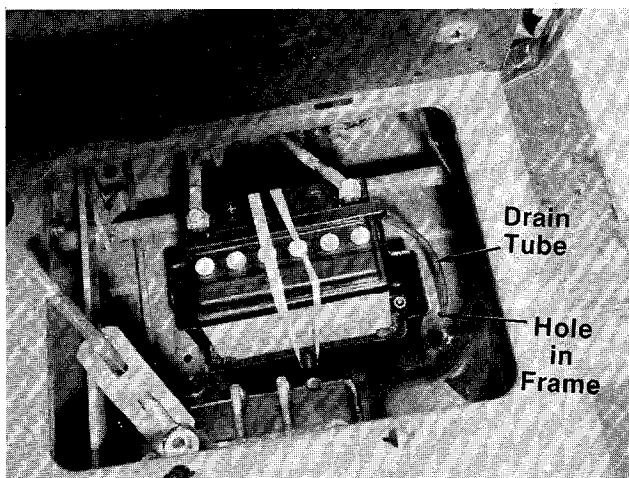

FIGURE 18.
11. Feed the end of the battery drain tube through the hole provided in the frame. See figure 18.